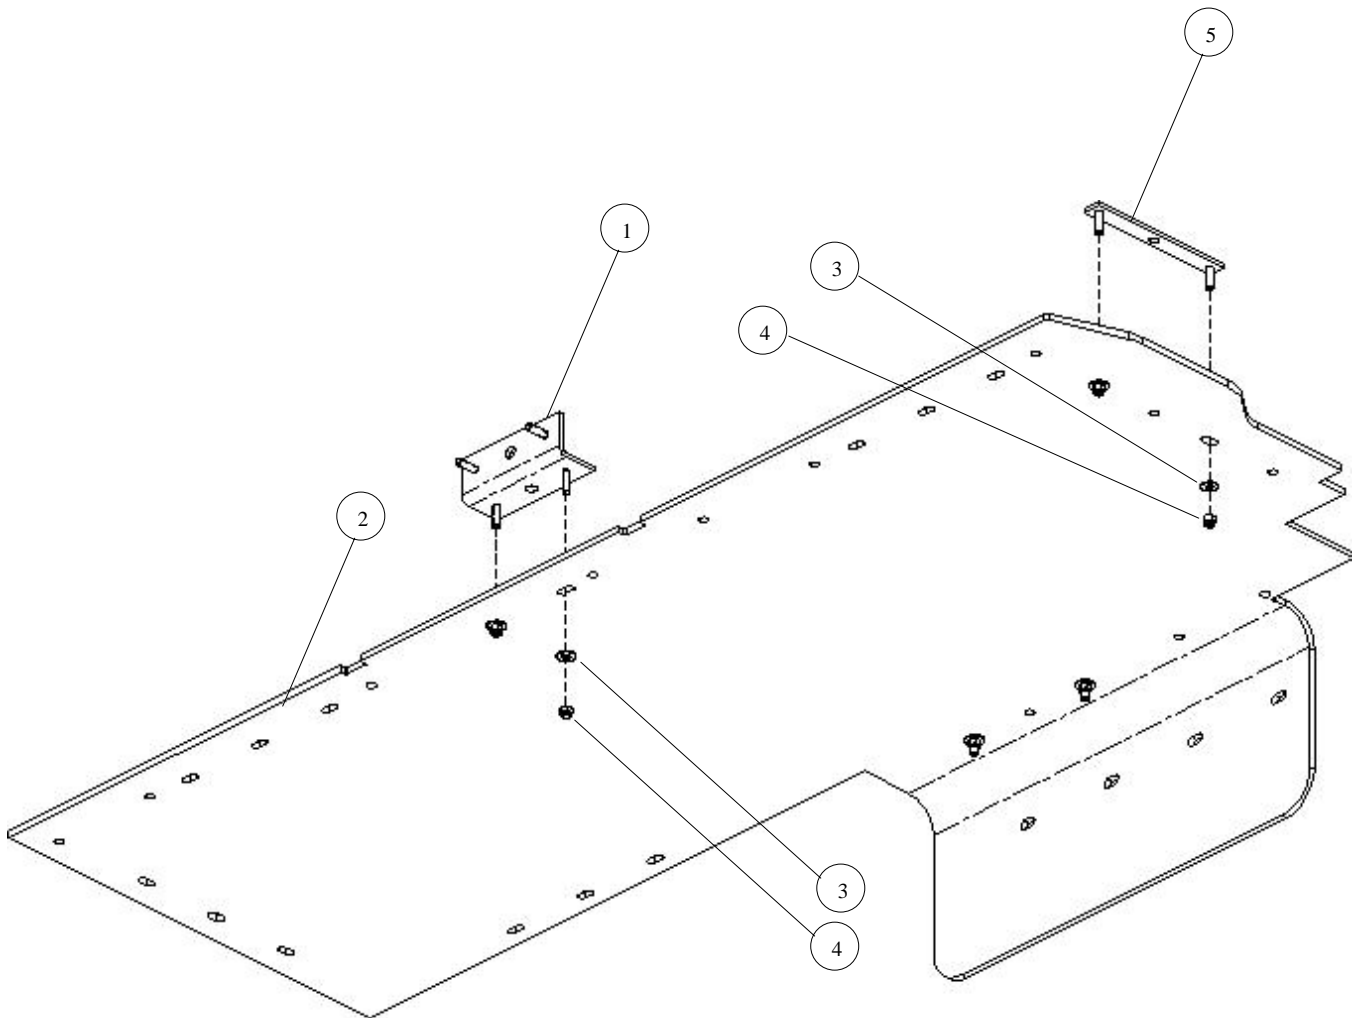

Figure 3-63. Right Mine Blast Panel Pre-Assembly.
1. Pre-assemble right mine blast panel as follows (see Figure 3-63):
- a. Install one step joiner bracket (1) onto right mine blast panel (2) and secure with two flat washers (3) and locknuts (4). Torque locknuts to 23 lb-ft.
- b. Install two underbody stud plates (5) onto right mine blast panel (2) and secure each with two flat washers (3) and locknuts (4). Torque locknuts to 23 lb-ft.